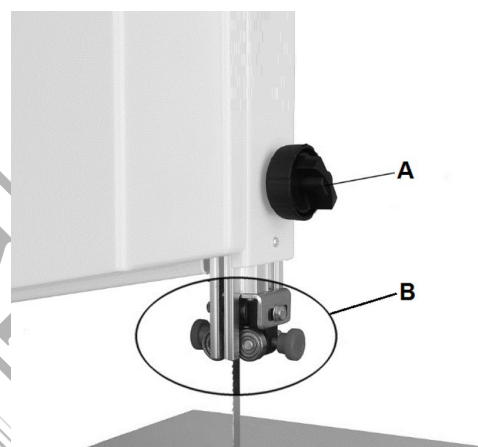

FIG. 18
To adjust the cutting height release the winged nut (A, Fig 18) and move the upper blade guide and guard assembly (B).